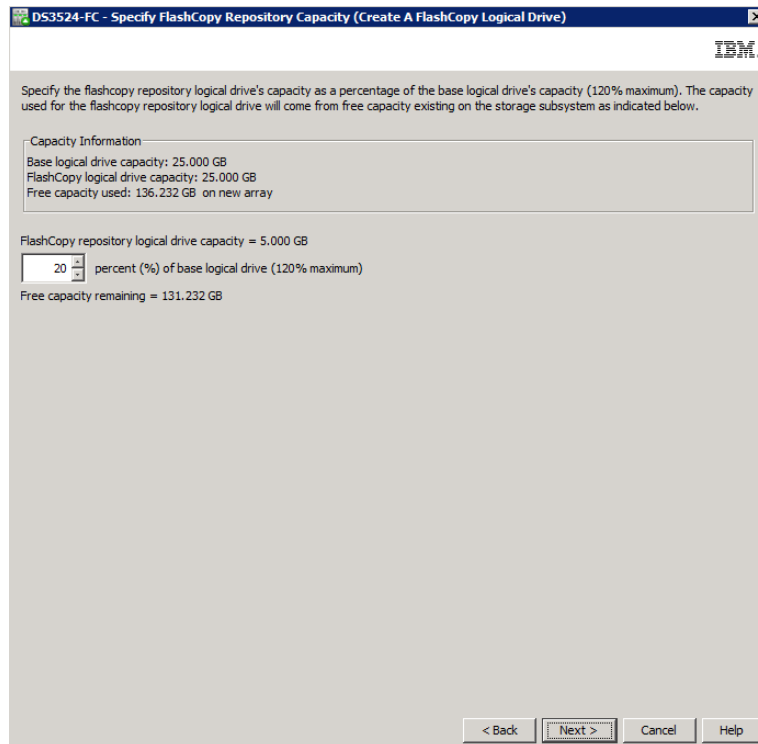

Figure 2-20 Create FlashCopy Logical Drive Wizard: Specify repository logical drive capacity
- c. The Specify Repository Capacity window opens, shown in Figure 2-20 on page 32. Set the repository drive capacity as a percentage of the base logical drive's capacity (the default is 20%).